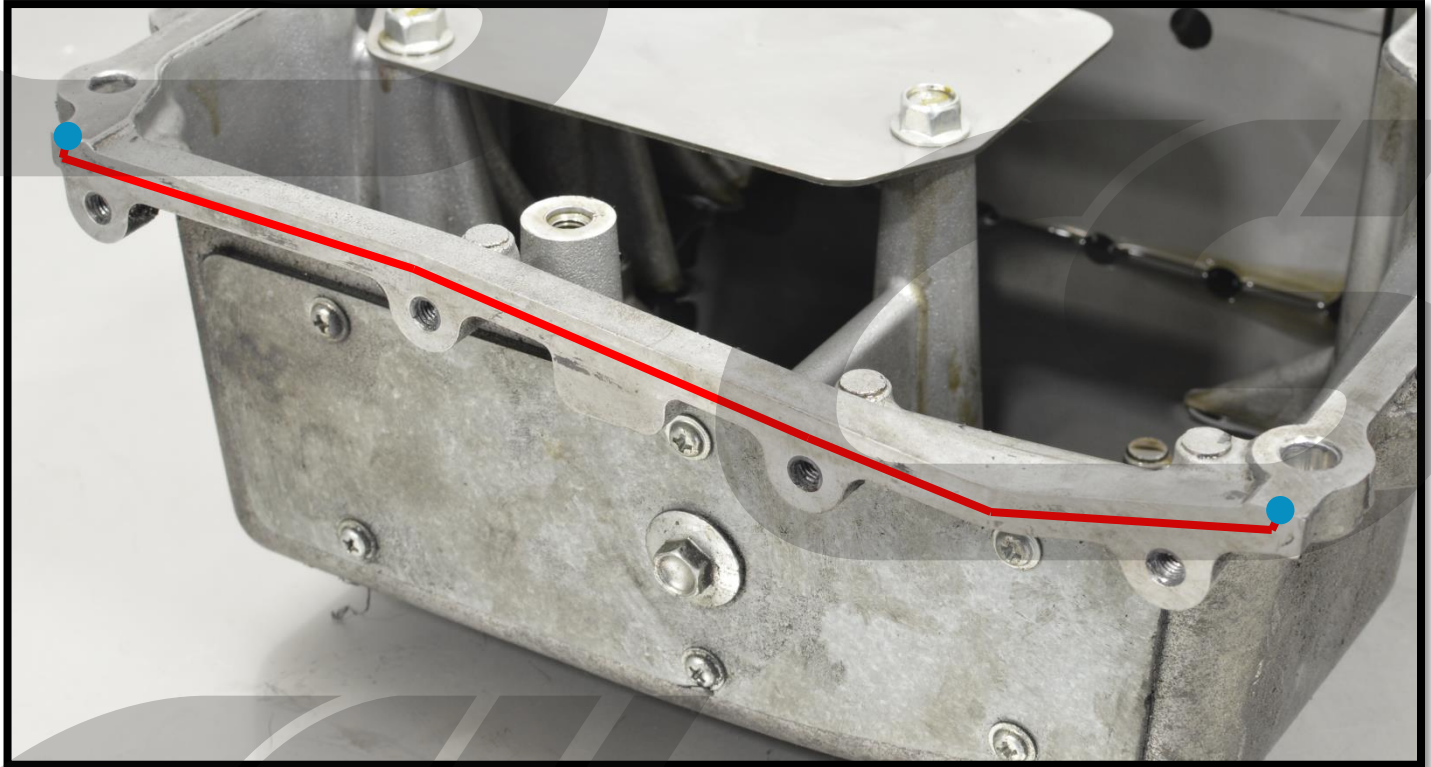

Figure 7b
- c) Apply another bead of sealant on the surface where the oil pan attaches to the timing cover. Apply to **both** the oil pan and timing cover to ensure it will seal properly. Paths shown with **red line** in **Figure 7b & 7c**. Apply a little extra at the corners to ensure a full seal (marked with **blue dots** in **Figure 7b & 7c**).